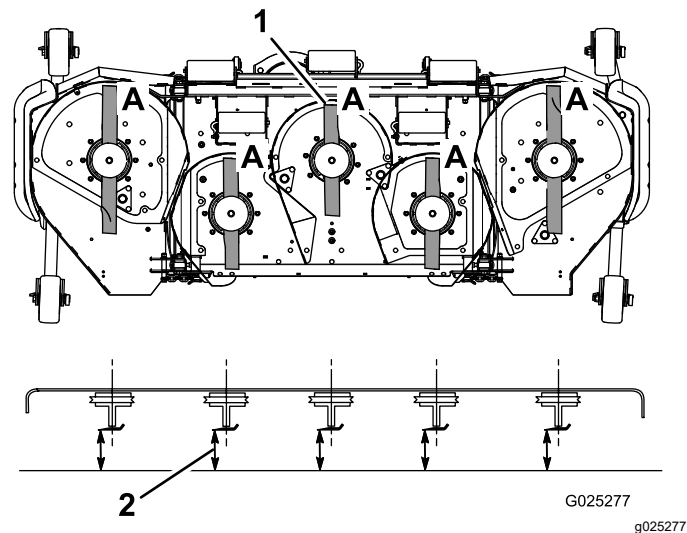

Figure 25
3. Rotate the blades until the ends face forward and backward (Figure 25).
4. Measure from a level surface to the cutting edge, position A, of the blades (Figure 25). Note this dimension.